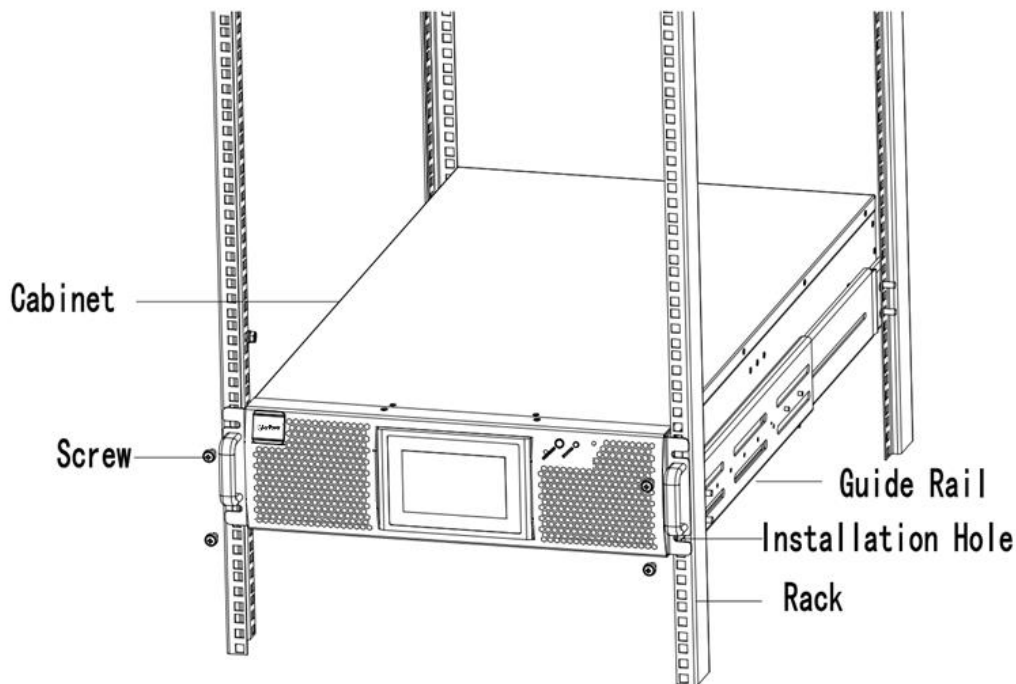

Fig.2-3 Rack Mounted Installation
- 2) Put the UPS and battery cabinet on the guide rail, fix the units to the service rack, shown as Fig.2-3.